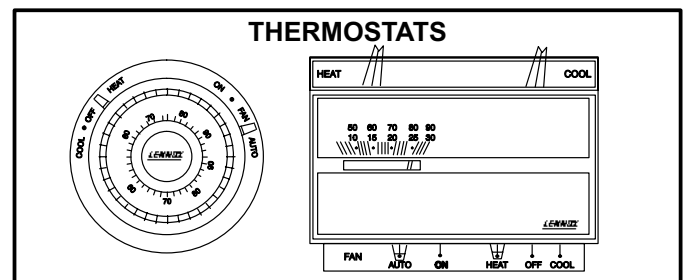

Figure 2
- 2 - Set thermostat to its lowest setting. See figure 2.